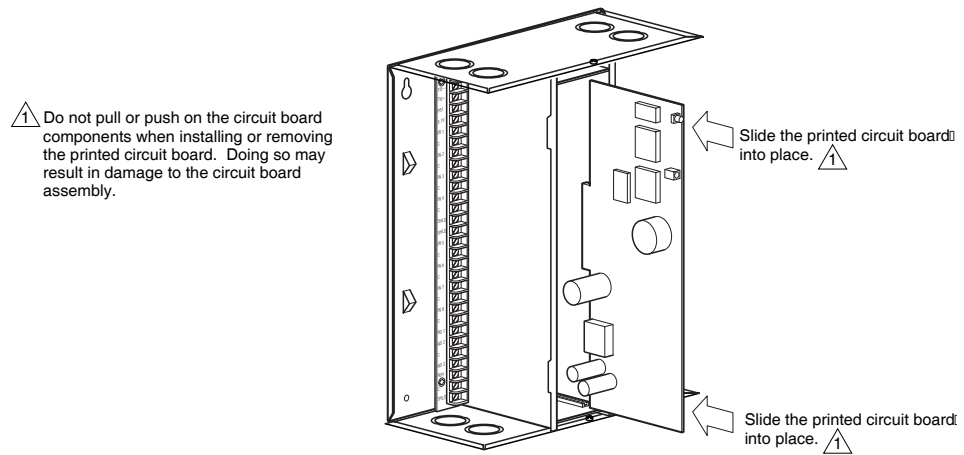

Figure-4 Printed Circuit Board Installation.
5. Slide printed circuit board into place (Figure-4 ).